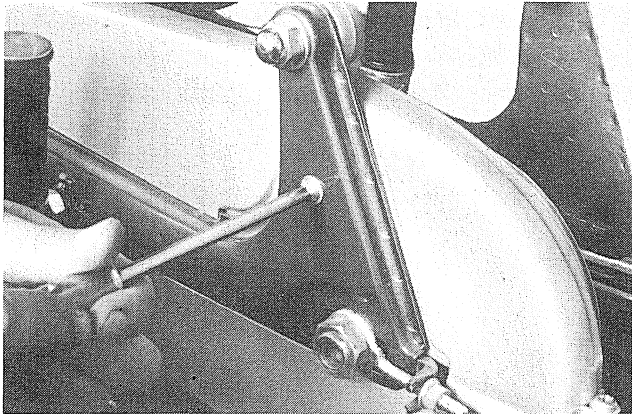

Fig. 4-2-8
- 5) Remove the chain case mounting bolts, and remove the chain. (Figs. 4-2-8 and 9)